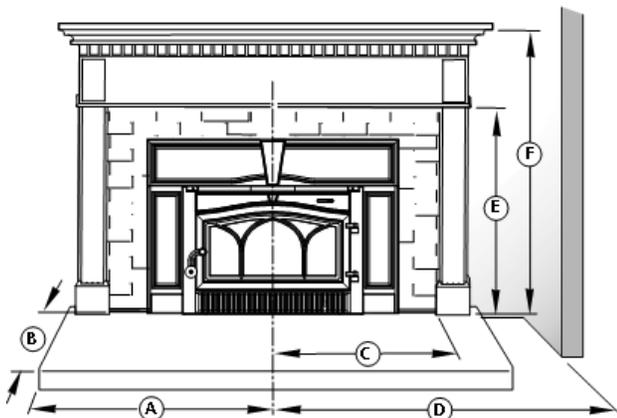

Figure 5. Minimum clearance to combustible materials
- B) Sides** - Protection must extend 17 1/4 inches (438 mm) to both sides of the centerline of the insert. See fig 5.